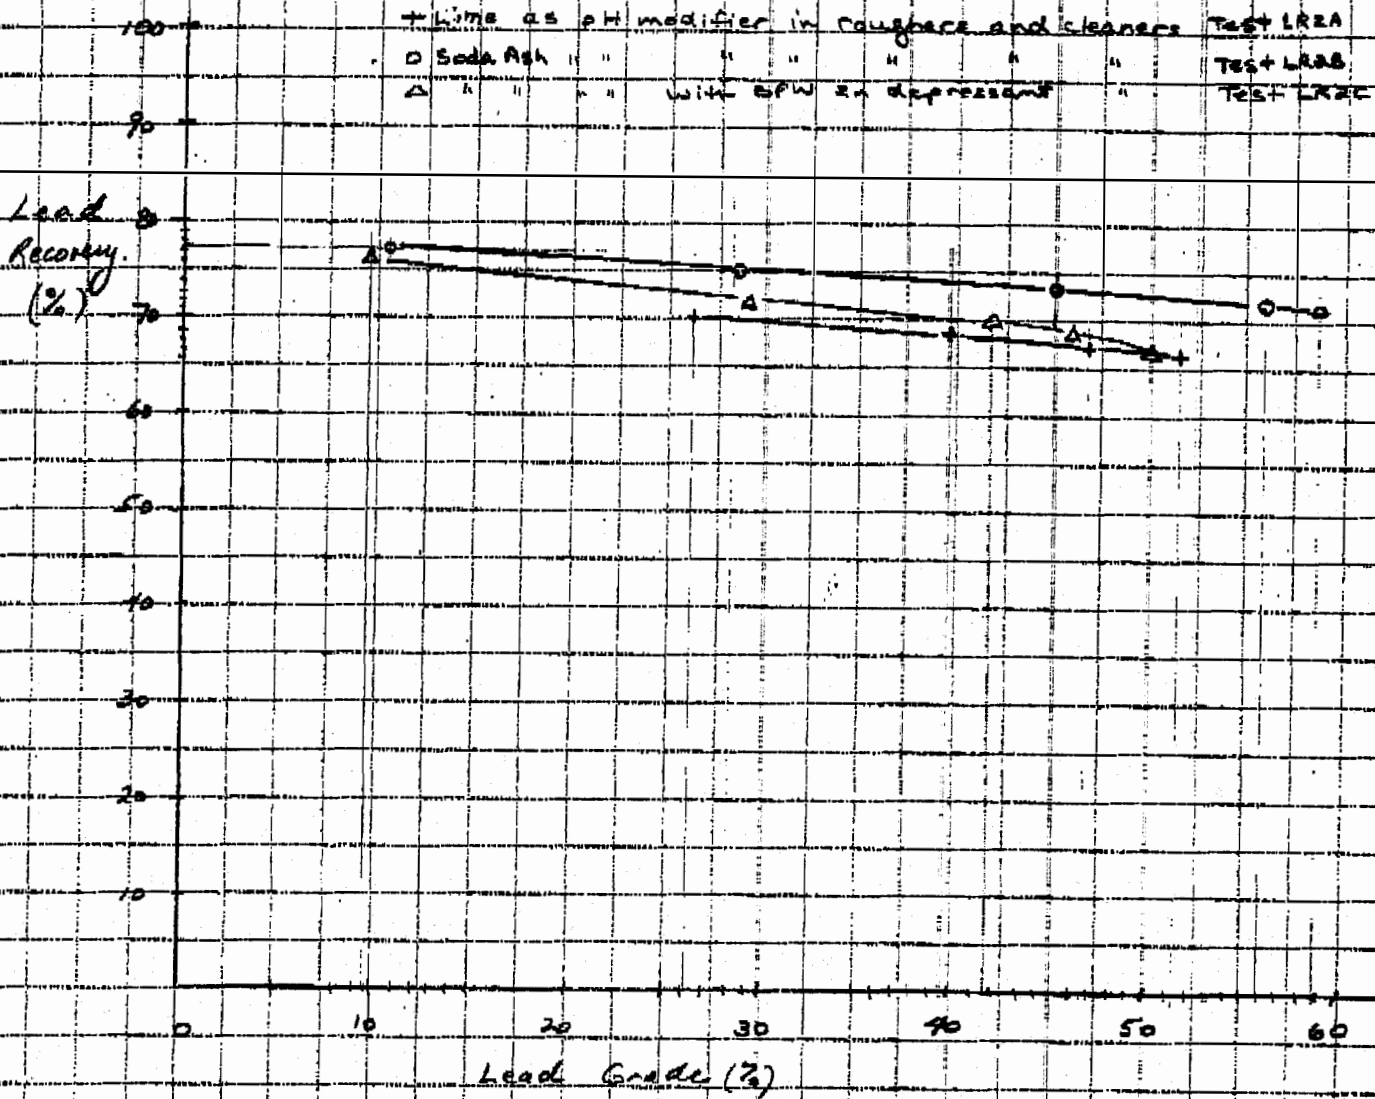

Figure 1: Effect of a change in reagent scheme on the grade and recovery of ore type 2, Hole 1, 1270m to bench.
- Hole 1 (1276m to 1270m) and Grum chips G-70-2 ore samples gave Pb selectivity problems. Hole 1 (1276m to 1270m) sample was tested further to determine if the standard mill circuit cleaning scheme would upgrade the bulk rougher concentrate. The resultant 4th Pb cleaner concentrate was poor (Test 2A, 52% Pb grade, 66.4% Pb recovery), however, the zinc 3rd cleaner concentrate was acceptable (51.1% Zn, 2.06% Pb, 70% Zn recovery). For comparison purposes, in Test 2B soda ash replaced lime and the Pb concentrate grade improved to 58.9% Pb grade with 71.5% Pb recovery. In Test 2C, the soda ash BPW system Pb 4th cleaner results were similar to lime. These tests 2A, 2B and 2C are graphed in Figure 1.